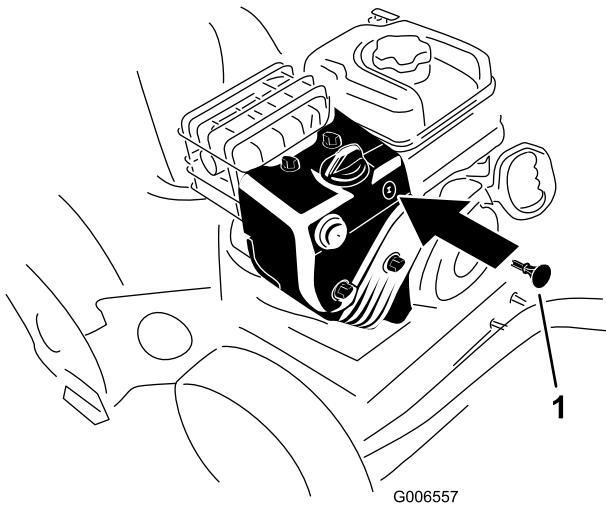

Figure 29
3. Insert the ignition key (Figure 29).